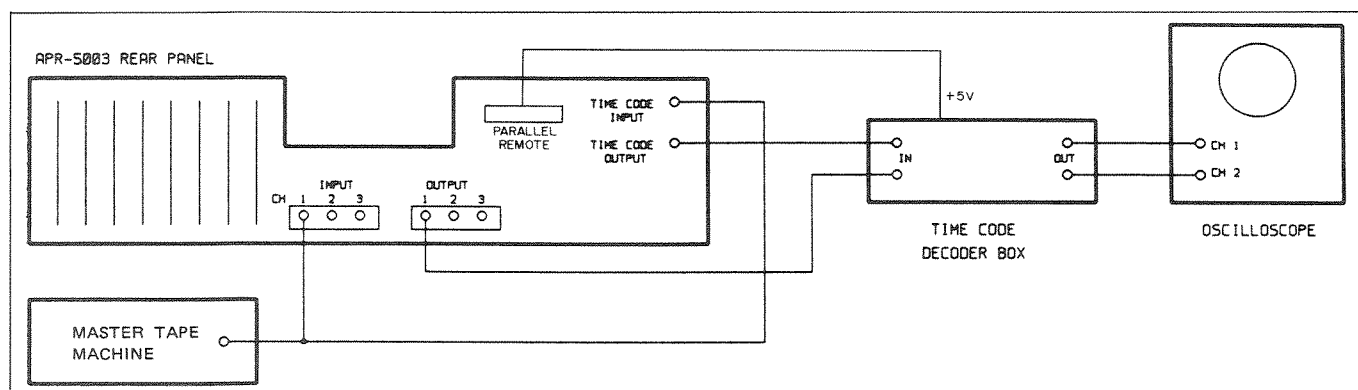

Figure 4-6. CHASE Mode Verification Connections
STEP 1 Connect the equipment as illustrated in Figure 4-6. On the Oscilloscope, set Channel 1 for normal operation, set Channel 2 for inverted operation, and set the function switch for an algebraic sum display.